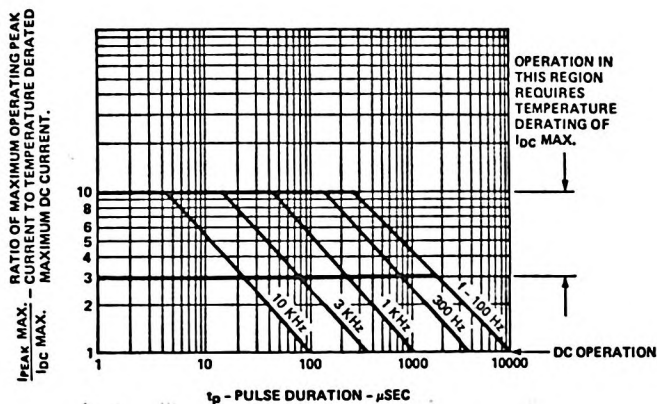
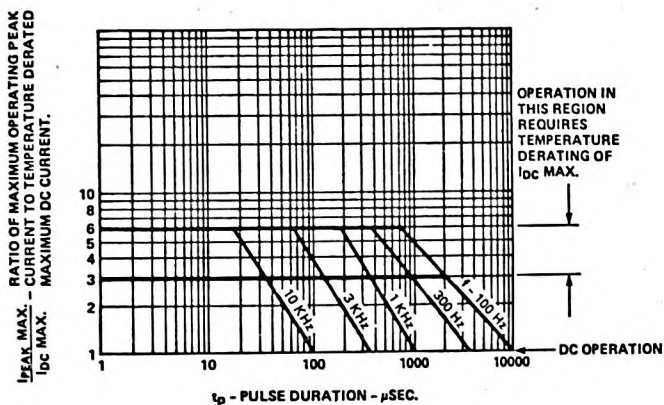
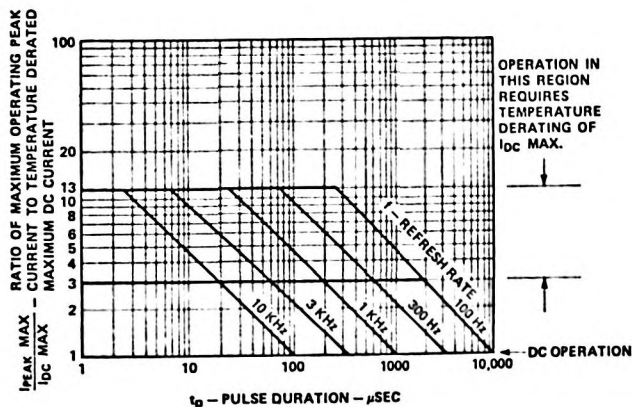

Figure 6. Maximum Tolerable Peak Current vs. Pulse Duration — HDSP-7500 Series
Figure 7. Maximum Tolerable Peak Current vs. Pulse Duration — HDSP-7400 Series
Figure 8. Allowed Peak Current vs. Pulse Duration — HDSP-7800 Series
8. See Figures 1, 6, 7, and 8 to establish pulsed operating conditions. (Figure 1, HDSP-7300 Series; Figure 6, HDSP-7500 Series; Figure 7, HDSP-7400 Series; Figure 8, HDSP-7800 Series)